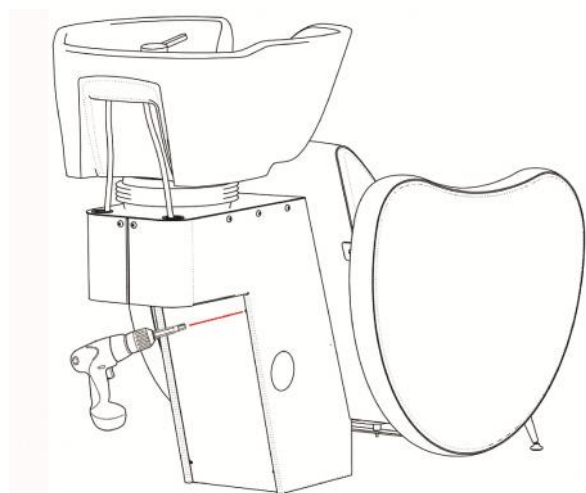

Fig.7
- 3) Once the sink is positioned properly, remove the metal rear cover, placed behind the column, by unscrewing the fixing bolts, Fix the metal column to the floor with the appropriate anchoring blocks, or if the floor is not sufficiently compact, with a chemical anchoring agent (not provided) .Cut with a scissors the plastic ties that fix the wound up electric feeding cable. extract the feeding cable out of the leg-raise control box and connect to the provided electric socket flush to the floor (fig.7 – 8 – 9 – 10 - 11)
- 4) Pull down drain pipe, hot & cold feed pipes trough the hole. Proceed with the hydraulic connections, making sure to verify the easy movement of the sink with its maximum range of tilting.(fig.7)